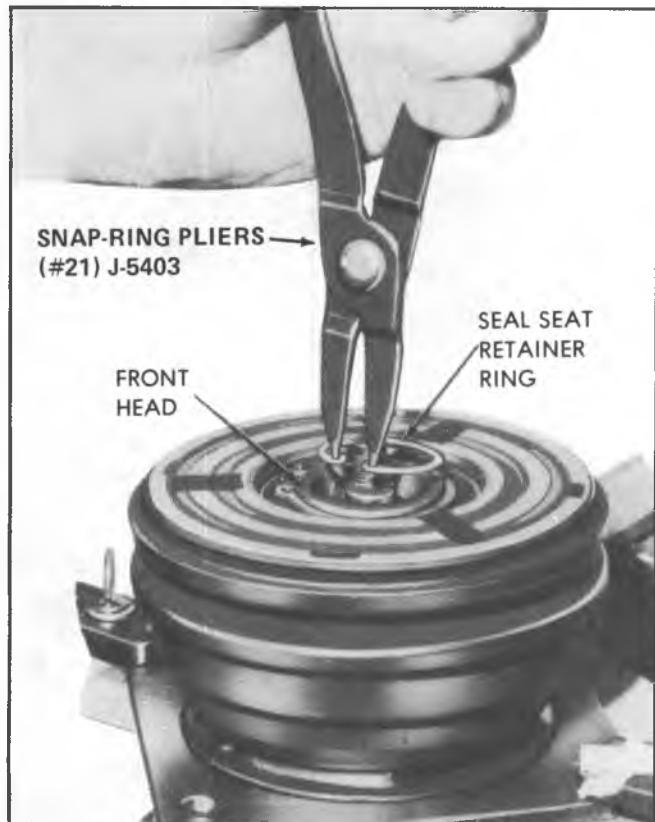
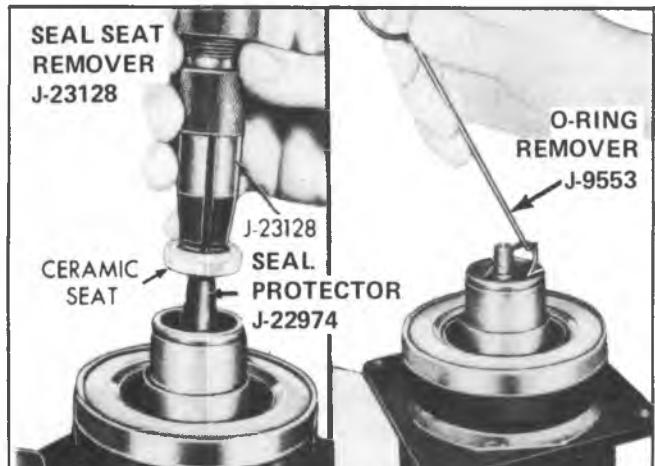

Fig. 18--Removing or Installing Shaft Seal Seat Retaining Ring
Fig. 19--Removing Shaft Seal Seat and O-Ring
2. Pry out the sleeve retainer and remove the absorbent sleeve. Remove the shaft seal seat retaining ring, using Snap-Ring Pliers J-5403 (#21). See Fig. 18.
4. Place Seal Protector J-22974 over the end of the shaft to prevent chipping the ceramic seat. Fully engage the knurled tangs of Seal Seat Remover-Installer J-23128 into the recessed portion of the seal seat by turning the handle **clockwise**. Lift the seat from the compressor with a rotary motion (Fig. 19).
6. Remove the seal seat O-ring from the compressor neck using O-Ring Remover J-9533 (See Fig. 19).
4. Coat the seal face of the new seal seat with clean 525 viscosity refrigerant oil. Mount the seal seat on Seal Seat Remover-Installer J-23128 and install it in the compressor neck, taking care not to dislodge the seal seat O-ring and being sure the seal seat makes a good seal with the O-ring. Remove Seal Protector J-22974 from the end of the shaft (see Fig. 19).
5. Install the new seal seat retainer ring **with its flat side against the seal seat**, using Snap-Ring Pliers J-5403 (#21). See Fig. 18. Use the sleeve from Seal Seat Remover-Installer J-23128 (Fig. 19) to press in on the seal seat retainer ring so that it snaps into its groove.